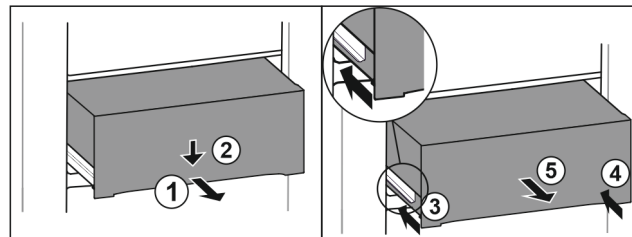

Fig. 135
- ▶ Pull out the drawer halfway. Fig. 135 (1)
- ▶ Press down the drawer on the front. Fig. 135 (2)
- ▶ Push in the left rail approximately 2 cm (13/16 in). Fig. 135 (3)
- ▶ Push in the right rail approximately 2 cm (13/16 in). Fig. 135 (4)
- ▶ Remove drawer to the front. Fig. 135 (5)